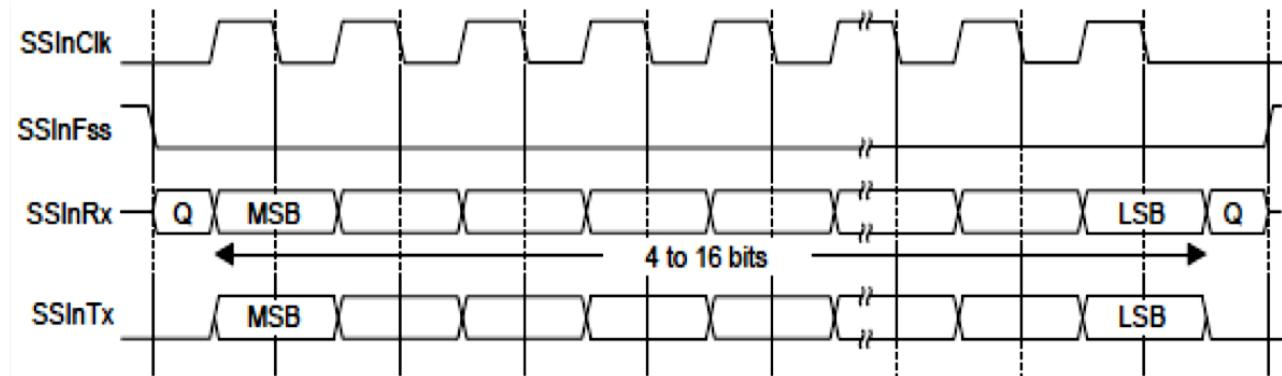

Figure 8.7 The operational sequence for Freescale SPI frame (**SPO=0, SPH=1**).
- Figure 8.7 shows the operational sequence when **SPO = 0** and **SPH = 1**. This setting means that the inactive level of the **SSInClk** is **Low** and the data is captured at the second clock edge.